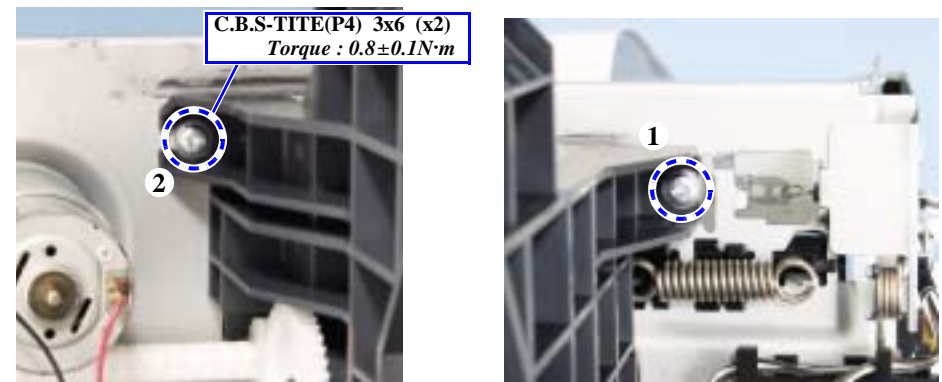

Figure 4-62. Removing the screw (ASF Assy)
6. Remove the right and left screws (x2) securing the ASF Assy. (Fig. 4-62)
- Tighten the screws in the specified order. (Fig. 4-62)